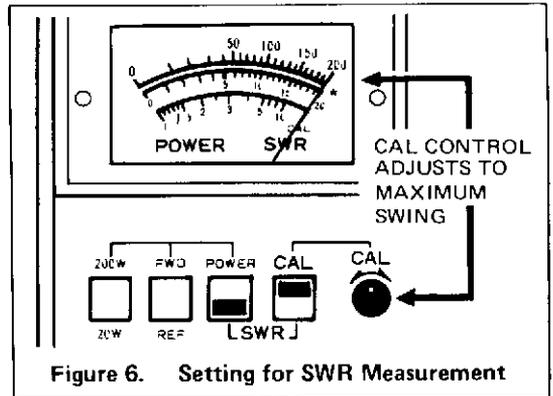

Figure 6. Setting for SWR Measurement
- Set the controls as illustrated in Figure 6. Set the ANT switch to the "THROUGH" position to which a desired antenna is connected.